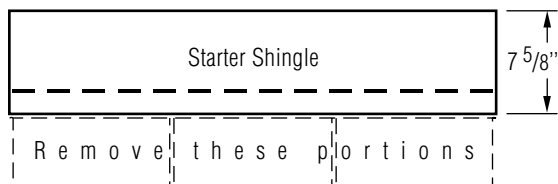

Figure 12-6: Make starter shingles that are 7⁵/₈" in height.
1. Use CertainTeed Swiftstart® Starter, or three-tab self-sealing shingles with the lower tab portions removed. Be sure that the starter shingles are at least 7⁵/₈" in height. (Figure 12-6).